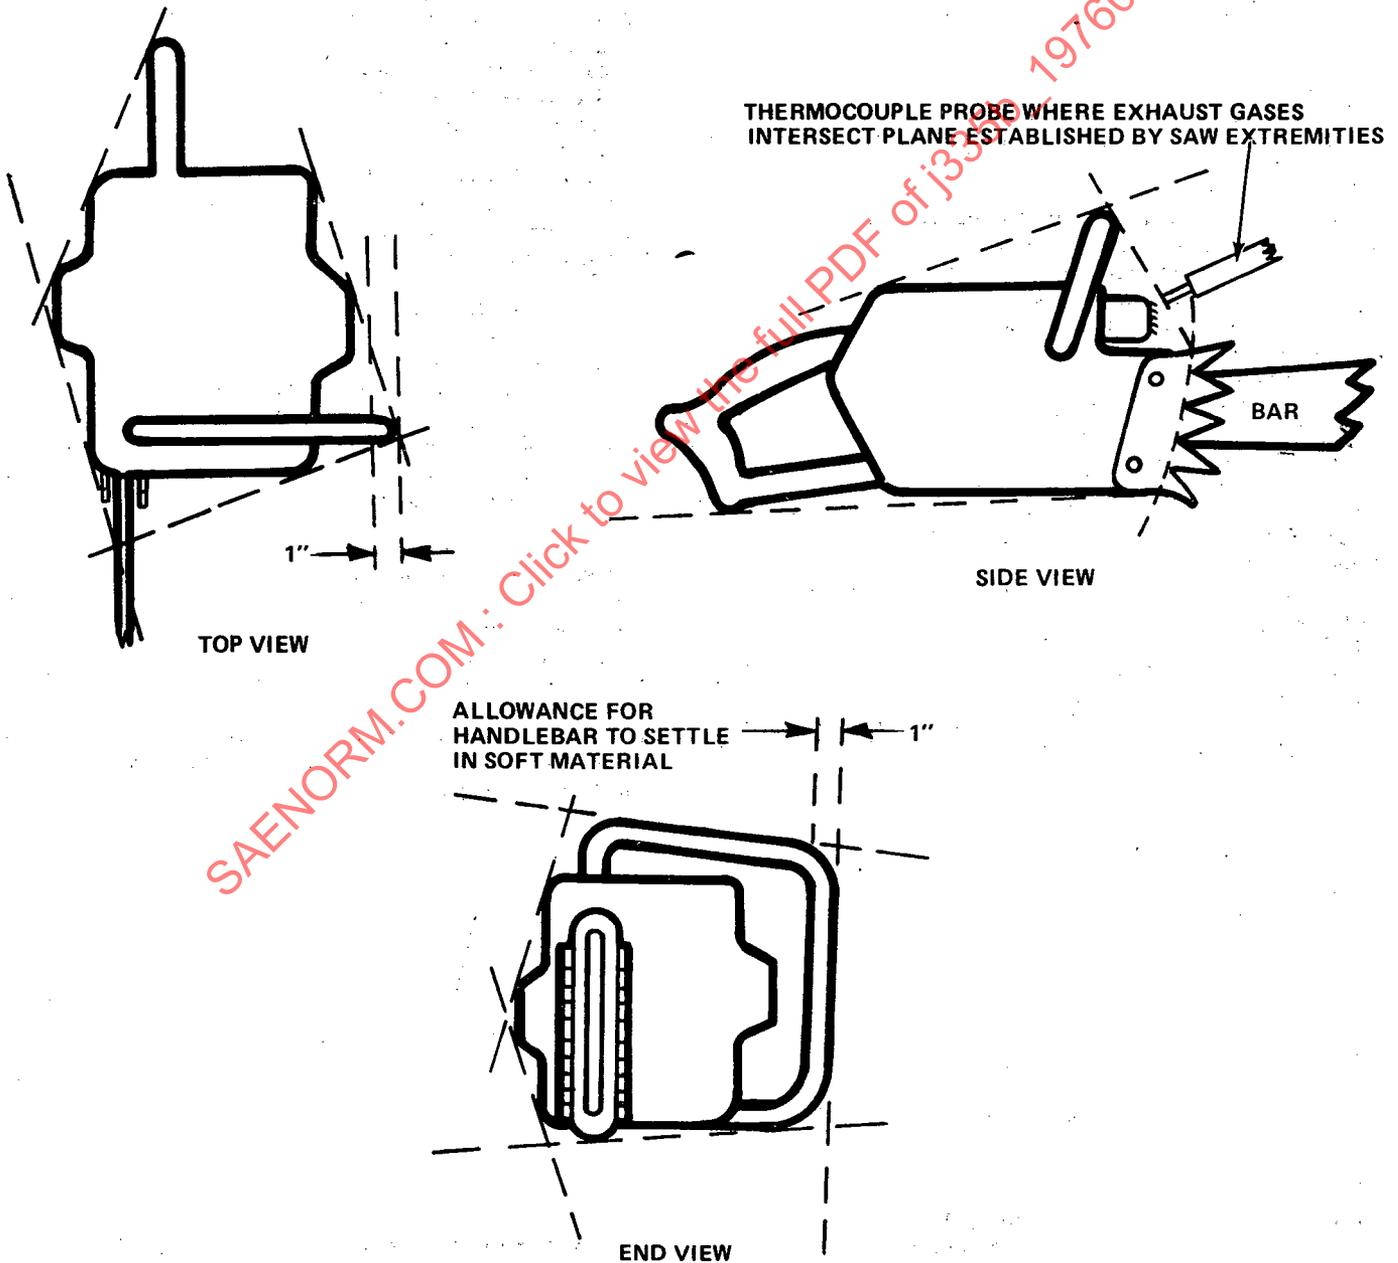

FIG. 2—DETERMINATION OF LOCATIONS FOR MEASURING EXHAUST SYSTEM SURFACE AND EXHAUST GAS DISCHARGE TEMPERATURES
4.1 Exposed Surfaces Test Defined—Exhaust system temperatures will be measured at the points where the engine exhaust system can contact plane surfaces established by the extremities of the power unit or power head. In the case of a chain saw, the plane surfaces will be established by the extremities of the saw with bar removed and a line passing through the lowest points in the spaces between the bumper spikes (dogs). See Fig. 2. To determine points of measurement, place the power unit in a sufficient number of positions on a flat surface to determine where the exhaust system components can contact the surface.